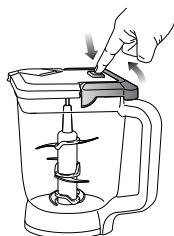

Fig. 8
- 16 For thicker consistencies, first remove the lid by pressing the release button and pulling the lid handle up to a 90 degree angle to lift lid off the pitcher. Then, carefully remove the Stacked Blade Assembly by the top of the shaft. Place Stacked Blade Assembly away from the work area to avoid accidental contact. Finally, empty contents from the pitcher. (Fig. 8)